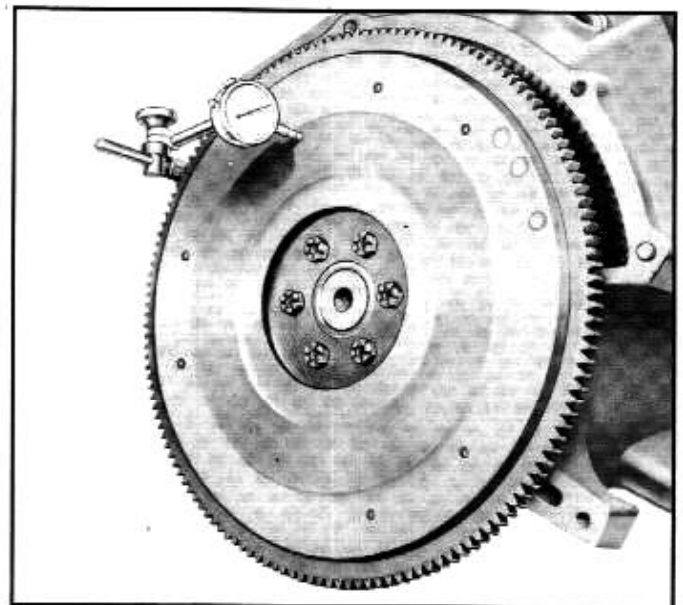

Fig. 6A-19—Checking Flywheel Run-out—Typical
3. With the flywheel installed on the crankshaft, figure 6A-19, check the flywheel face run-out.
1. Install flywheel. Tighten retaining screws to 75-85 lbs. ft. torque. Check flywheel clutch face run-out. Run-out must not exceed .010 inch T.I.R. See figure 6A-19. Check flywheel housing alignment.